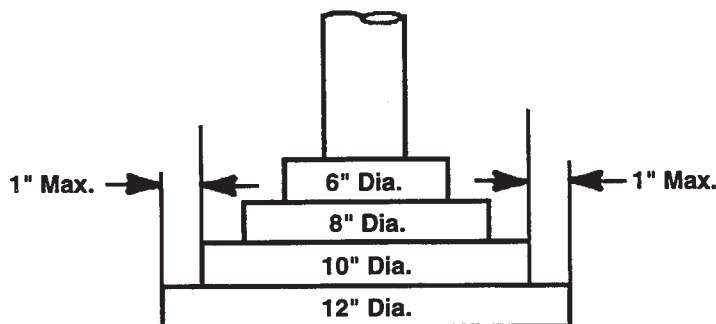

Figure 2
3. Select the plate that best fits the wheel (within the tire sleeve), and stack the plates so the load is not concentrated on any single plate. The difference in diameter between two adjoining plates must never exceed two inches. *For example, a 12" plate must be covered by a plate no smaller than 10".* See Figure 2. Generally no more than seven plates are required at one time. The ram spacer (TPS6) can be used on top of the stacked plates to reduce the ram stroke required.